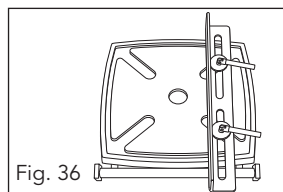

Fig. 36
1. Move the sliders on the adjustable stop (24) into two of the four guide slots in the drill table (4) and position it as desired. Fasten the adjustable stop (24) to the drill table using both spindle screws (Fig. 36).